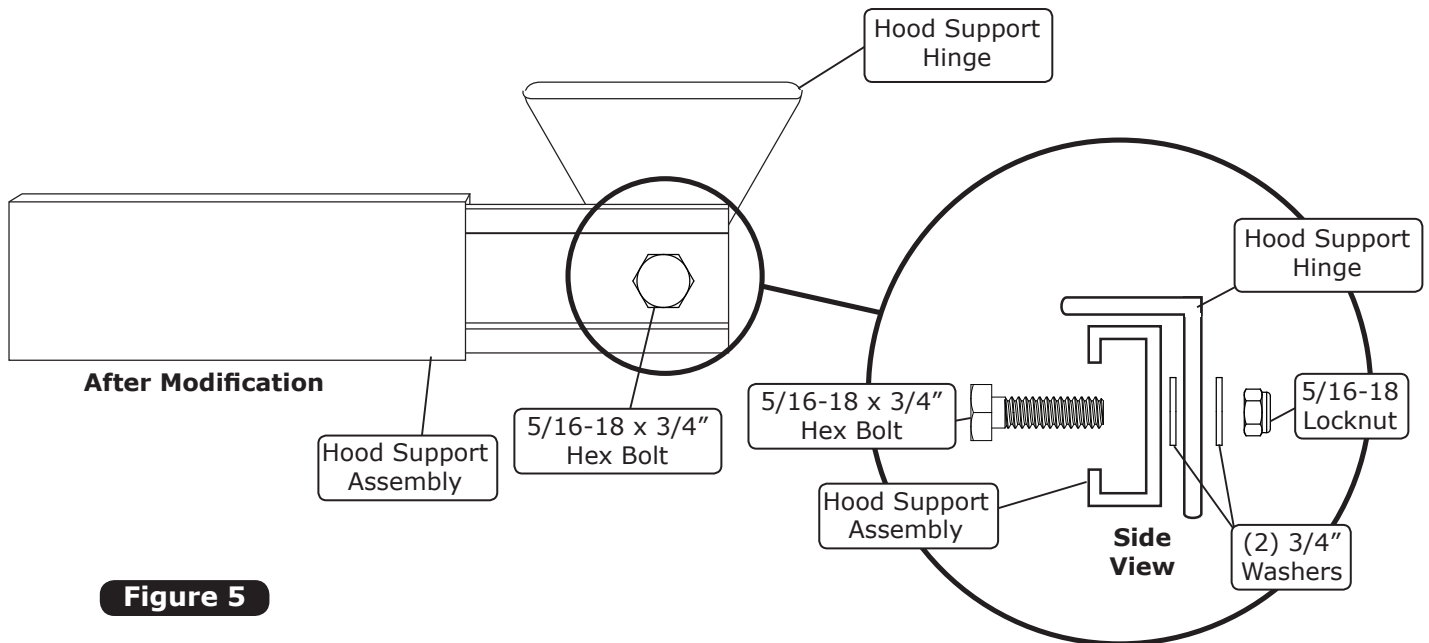

Figure 5
4. Relocate the hood support hinge, and assemble as shown in Figure 5, below.